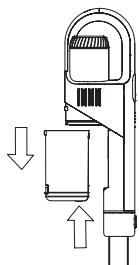

Рис.1
- Insert the extension pipe (5) into the air inlet of the vacuum cleaner until the release button (4) clicks (fig. 1 and 2).